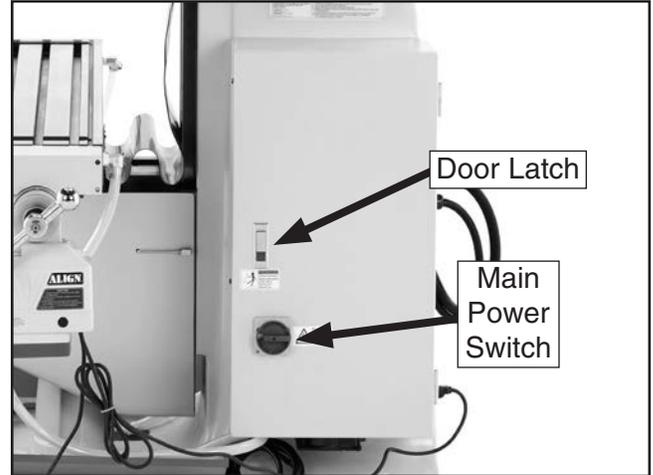

Figure 17. Electrical cabinet door latch and main power switch.
6. Make sure the electrical cabinet door is latched shut, then rotate the main power switch to the **ON** position (see **Figure 17**).